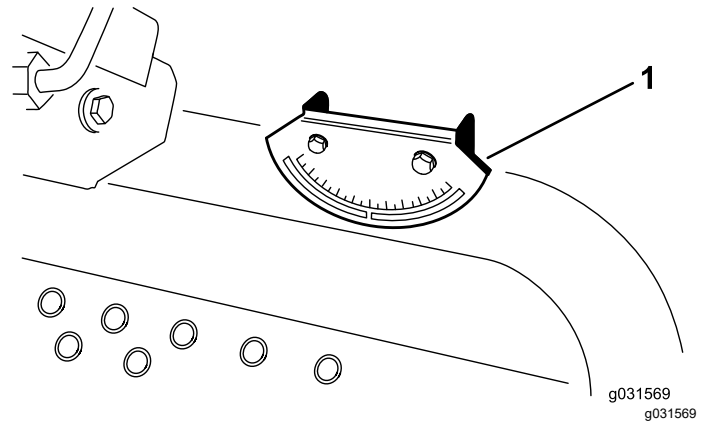

Figure 6
**Note:** The angle indicator, mounted on the machine, should now read 0° also (Figure 6).